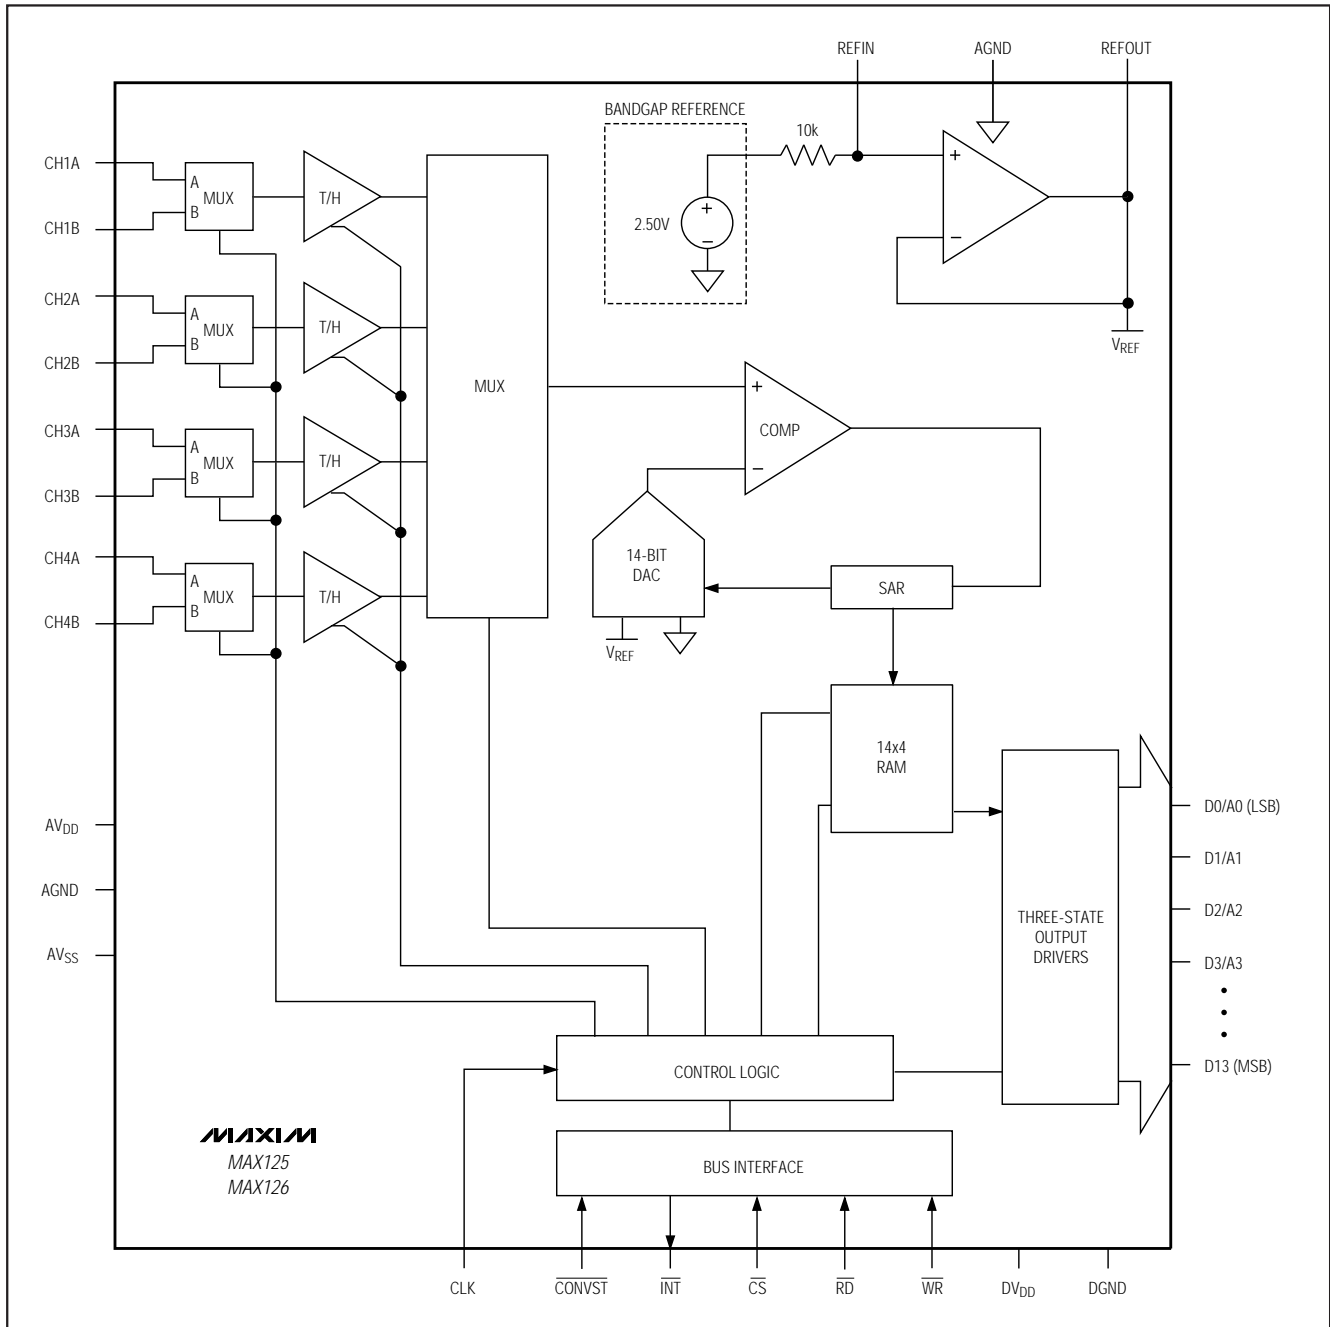

Figure 2. Functional Diagram
**Note 10:** See Figure 2.
The MAX125/MAX126 use a successive-approximation conversion technique and four simultaneous-sampling track/hold (T/H) amplifiers to convert analog signals into 14-bit digital outputs. Each T/H has two multiplexed inputs, allowing a total of eight inputs. Each T/H output is converted and stored in memory to be accessed sequentially by the parallel interface with successive read cycles. The MAX125/MAX126 internal micro-sequencer can be programmed to digitize one, two, three, or four inputs sampled simultaneously from either of the two banks of four inputs (see Figure 2).
The MAX125/MAX126 have eight conversion modes plus power-down, which are programmed through a bidirectional parallel interface. At power-up, the devices default to the mode *Input Mux A/Single-Channel Conversion*. The user can select between two banks (mux inputs A or mux inputs B) of four simultaneous-sampled input channels, as illustrated in Figure 2. An internal microsequencer can be programmed to convert one, two, three, or four channels of the selected bank per sample. For a single-channel conversion, CH1 is digitized, and then  $\overline{INT}$  goes low to indicate completion of the conversion. For multichannel conversions,  $\overline{INT}$  goes low after the last channel has been digitized.